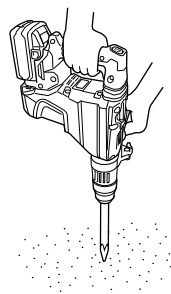

Fig. 24
2. How to chisel or demolish (Fig. 24)